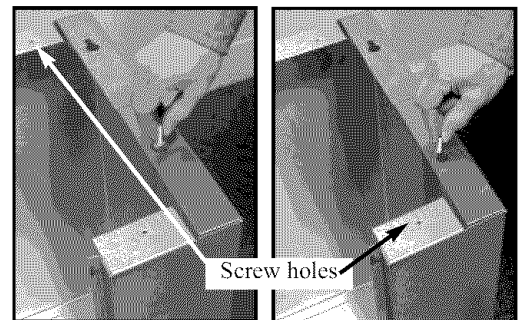

Fig. 7
3. Have someone help you pick up the grill and set it on the top of the cart, with the **front** of the grill above the door opening. Make sure the 4 bolt heads fall through the large opening of the key hole slots in the top of the cart. Slide the grill head **backward**, so the bolts are resting in the small opening of the key hole slots. Tighten the bolts securely. **Be sure not to over tighten and strip the bolts.** Next insert 4 hex head screws into grill bottom through cart. (See Fig. 7)